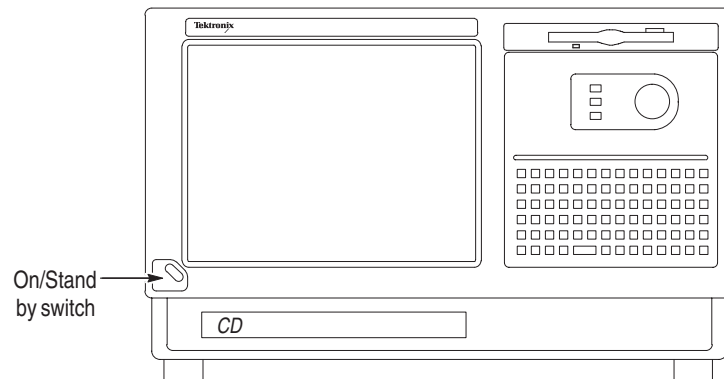

Figure 1–7: On/Standby switch locations
1. Check if your system contains the right fuse. By default, different fuse types are mounted for the different countries. The “Fuse Rating Indicator” (see Figure 1–6) indicates which kind of fuse is mounted. If needed change the fuse:
4. Turn on the benchtop as follows: Press the On/Standby switch to turn on the device (see Figure 1–7 for the switch location). The benchtop is set ready-to-run upon delivery.